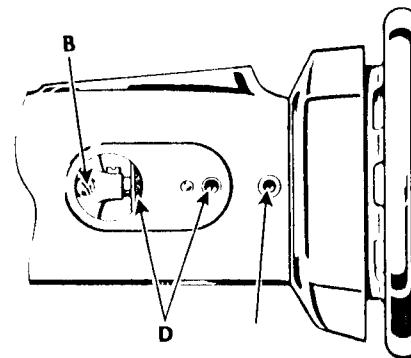

Fig. 4. Top View, Arm Top Cover Removed.
- Keep wicks D, Fig. 4, saturated with oil.
- Apply lubricant to gears through hole B, Fig. 4.